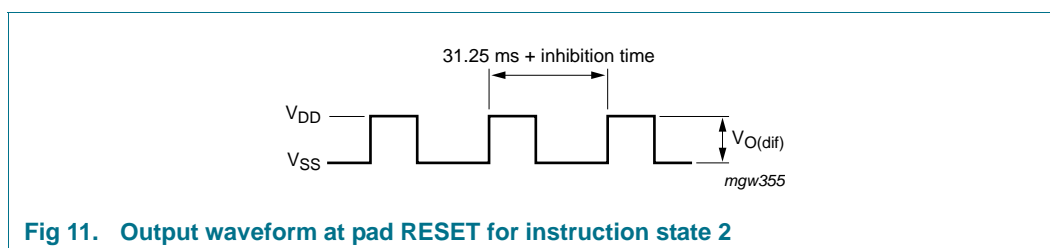
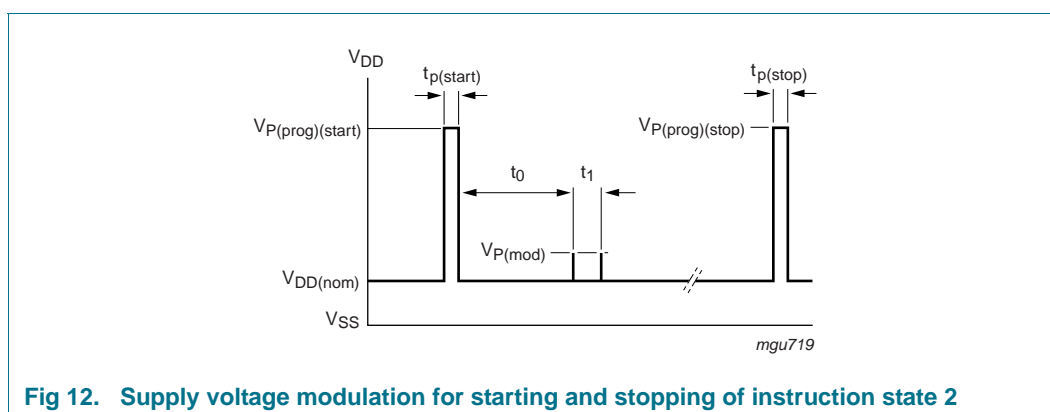

Fig 11. Output waveform at pad RESET for instruction state 2
Fig 12. Supply voltage modulation for starting and stopping of instruction state 2
Each instruction state is switched on with a pulse to $V_{P(prog)(start)}$. After this large pulse, an initial waiting time of t_0 is required. The programming instructions are then entered by modulating the supply voltage with small pulses (amplitude $V_{P(mod)}$ and pulse width t_{mod}). The first small pulse defines the start time, the following pulses perform three different functions, depending on the time delay (t_d) from the preceding pulse (see Figure 7, Figure 8, Figure 11 and Figure 12):
- State 2: inhibition time has a value of $n \times 0.122$ ms. A signal with periodicity of 31.25 ms + $n \times 0.122$ ms appears at pad RESET and as current modulation at pad V_{DD} (see Figure 11 and Figure 12)
See Figure 7, Figure 8 and Figure 12.